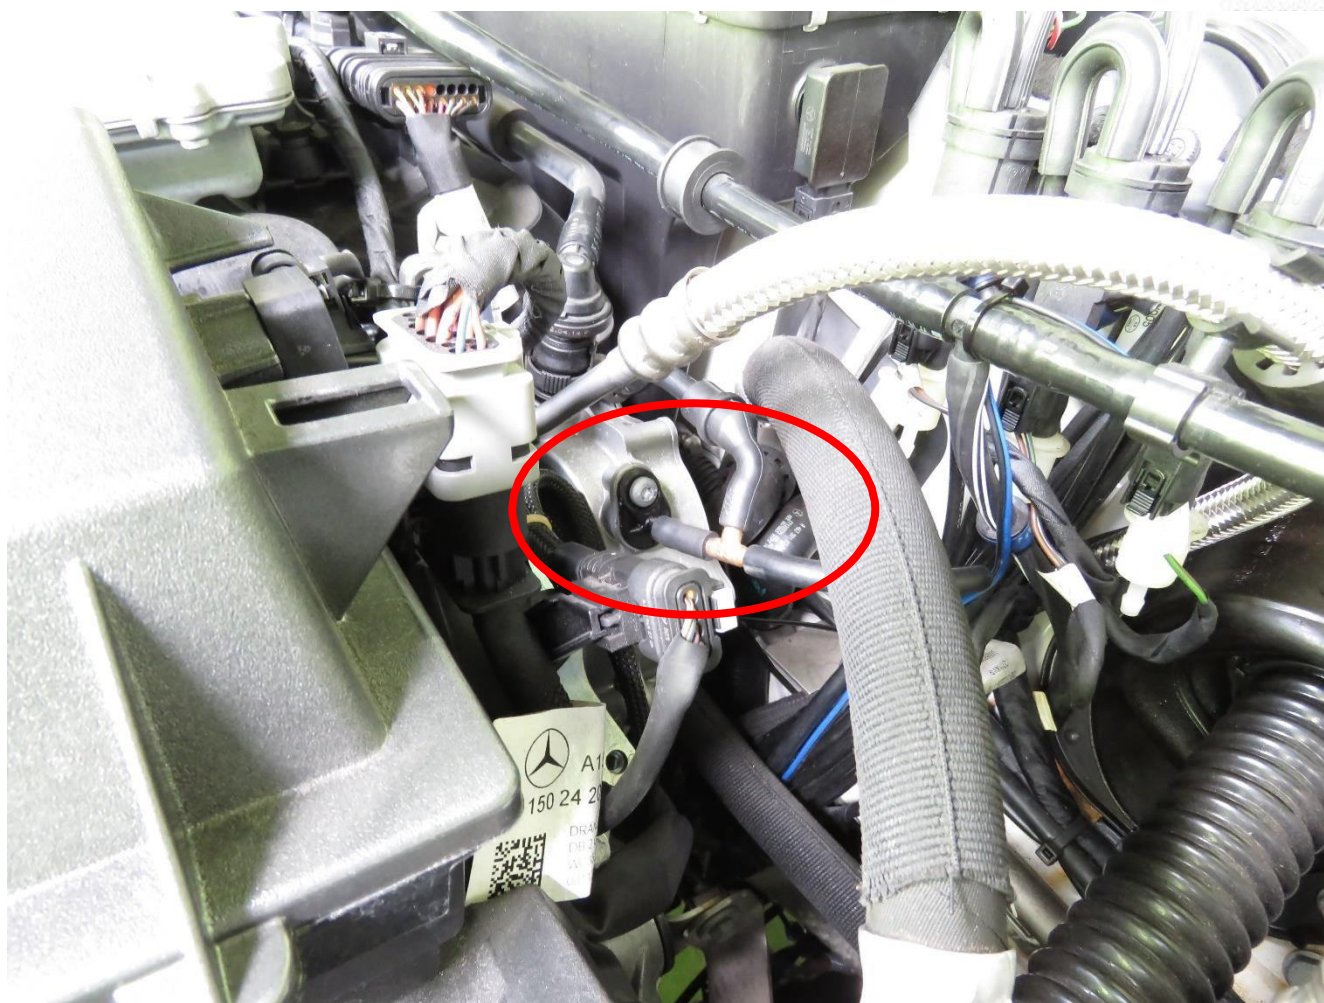

Fig.9
5. Disconnect the vacuum tube and connect the vacuum tube to the three-way vacuum tube (Fig.9).